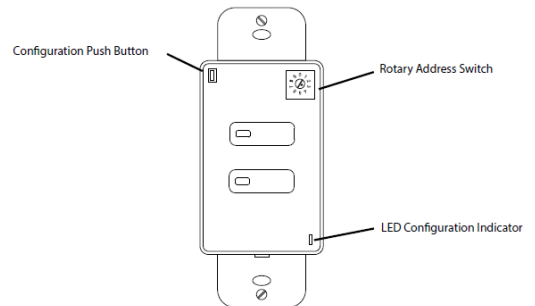
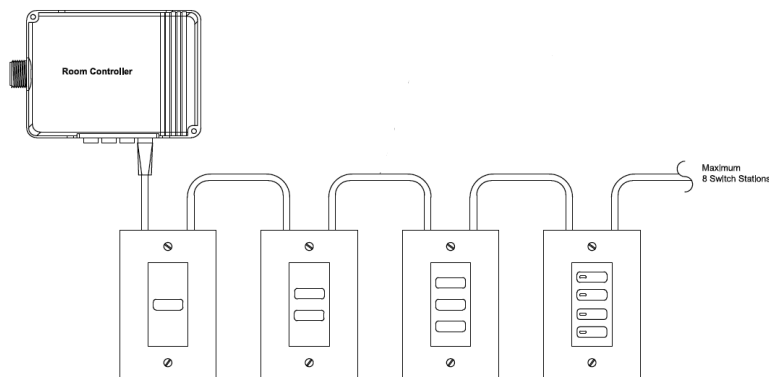

Figure 2
Figure 3
- B. Connect the UTP patch cord into any available RJ45 port on the room controller (See Figure 3). Verify solid snap-in connection.
- D. If it is not preset, set the switch address to number 1 on the rotary address switch located behind the switch's face. Additional switches can be to be daisy-chained on the same RJ45 port in the room controller. (See Figure 3) These must be set to unique addresses i.e. 2, 3, 4, etc. A maximum of 8 switches can be connected to one RJ45 port. (See Figure 2)
- G. REMOVE ALL EXCESS CABLE FROM WALL BOX PRIOR TO INSERTION OF SWITCH (ES). Patch cord runs between the room controller and the switch must be direct and free of obstructions. Avoid kinks, crushing, twisting, straining, abrasion, hot/cold and EMI/RFI exposure of the patch cords as this may result in an undesired system operation. It is recommended to test the functionality of the switch (es) prior to securing the switch in the wall box.